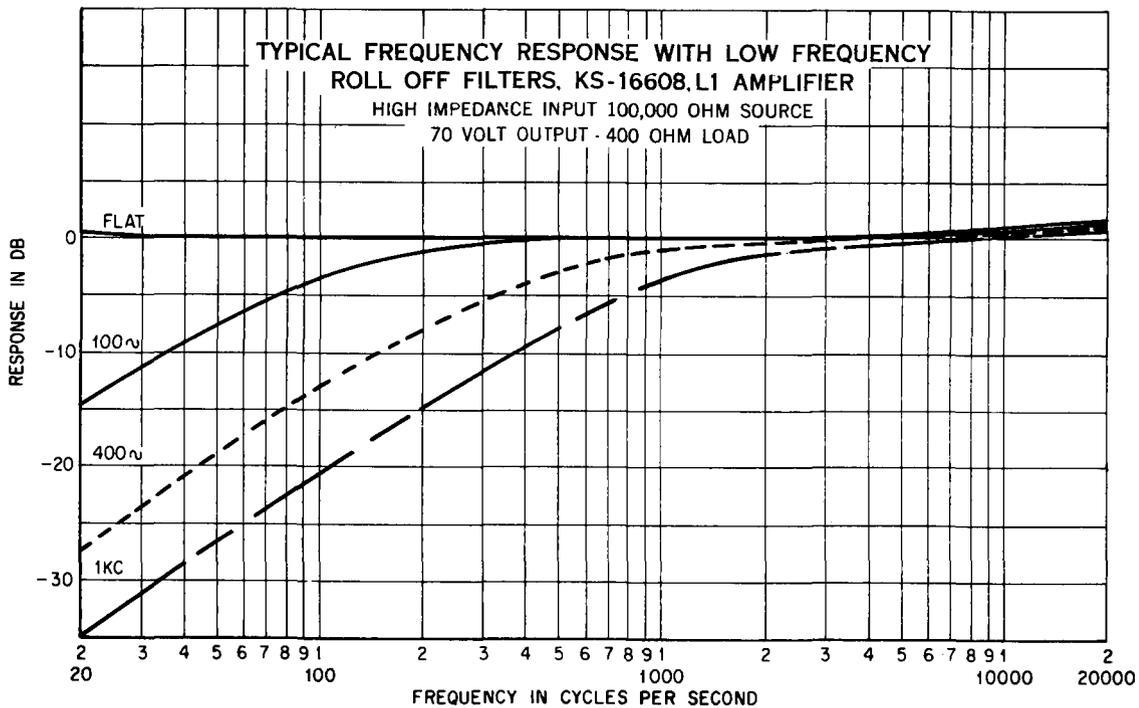

Fig. 5. - Response with Low Frequency Roll-Off
6.02 Fig. 5 shows the frequency response of the amplifier with low frequency roll-off. This feature is provided to reduce the output level of the frequencies in the low end of the band and thereby prevent damage to reproducing horns. This feature may also be used to minimize auditorium reverberation. The connections for the desired roll-off are made on TB4.